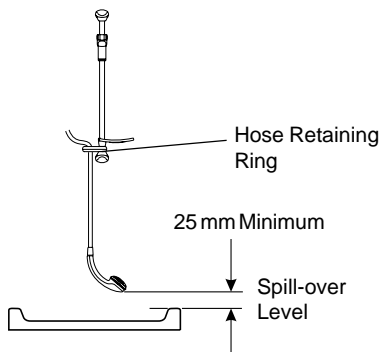

Figure 1
- 1.13. A hose retaining ring is supplied to prevent the handset from dropping below the spillover level of the bath or shower, which could lead to contamination from backsiphonage (refer to **Figure 1**). The supplied hose retaining ring should meet the great majority of user requirements for shower installations with flexible outlet fittings. However, there will be occasions when the hose retaining ring will not provide a suitable solution. In these instances an **outlet** double checkvalve, e.g. the Mira DCV-H, **must** be fitted. The inclusion of the Mira DCV-H will increase the required supply pressure typically by 0.1 bar.
- 1.1. Decide on a suitable position for the Mira Sport (minimum distance of 200 mm from the ceiling to allow for cover fit and removal). The position of the Mira Sport and the shower fittings must provide a minimum gap of 25 mm between the spill-over level of the shower tray/bath and the handset. This is to prevent backsiphonage (Refer to Figure 1, Section 7).